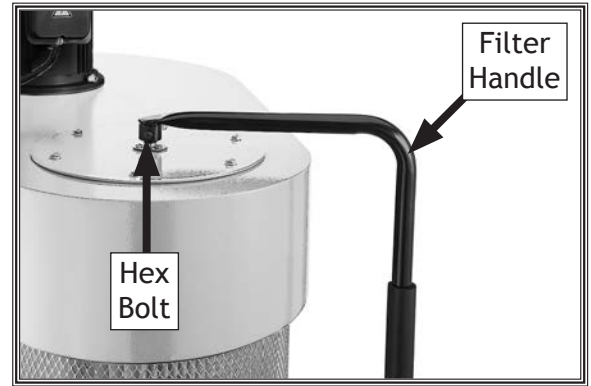

Figure 26. Filter handle installed on spindle.
28. Install filter cleaning handle on spindle so that M6-1 x 16 hex bolt tip aligns with spindle flat, then tighten hex bolt (see **Figure 26**).